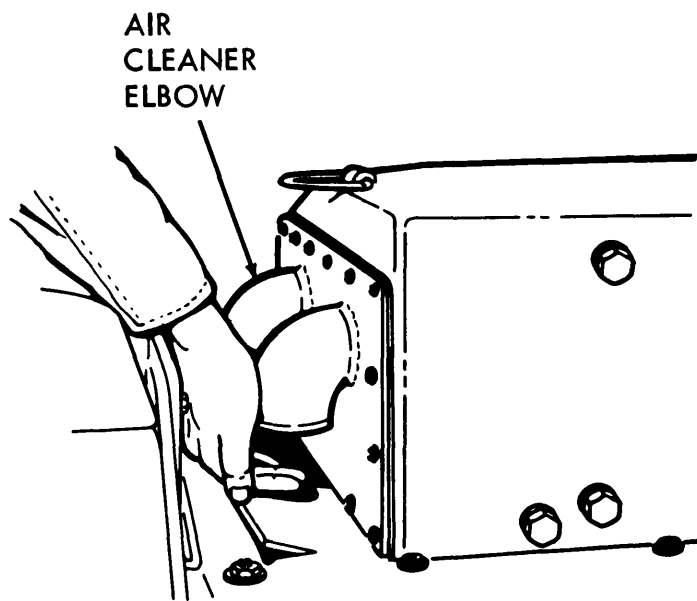

Figure 2-1. Blower motor check.
- b. With the engine running, check to see that air exhaust can be felt at all four blower motor elbows (fig. 2-1). Notify organizational maintenance immediately if two are not working on the same air cleaner. Do not operate your tank. If air exhaust can be felt at only one blower motor elbow on each air cleaner, you may continue to operate. Notify organizational maintenance at first opportunity because the blower motors may be inoperative and require replacement.